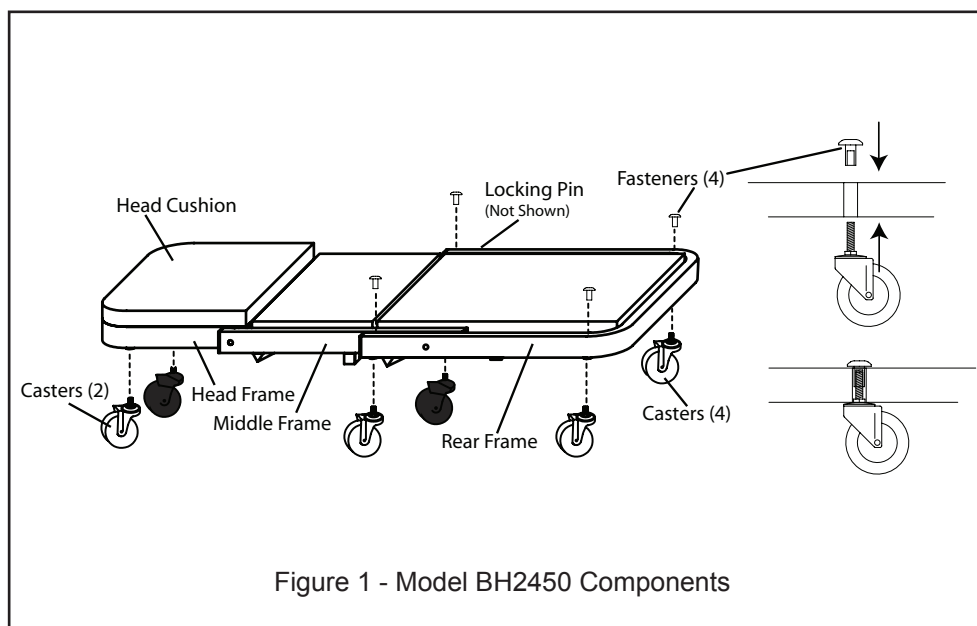

Figure 1 - Model BH2450 Components
Before beginning assembly of product, make sure all parts are present. Compare parts with package contents list and Figure 1 illustration. If any part is missing or damaged, do not attempt to assemble, install or operate the product. Contact customer service for replacement parts.
## ASSEMBLY INSTRUCTIONS (see Figure 1)
1. Carefully unfold the creeper as seen in Fig. 1.
3. Use a 5 mm hex-key to attach the remaining casters to the Rear Frame. Insert the threaded fasteners from above, the casters from below (as seen in Fig. 1), then hand tighten with hex key.